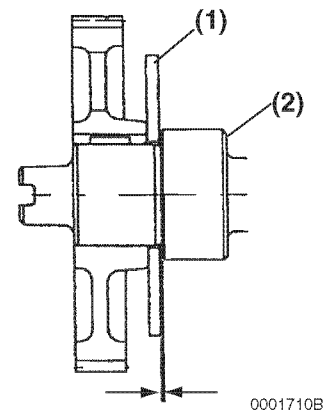

Figure 6-93
- Method B:** Use a feeler gauge to measure the clearance between the thrust plate (Figure 6-93, (1)) and front camshaft bearing (Figure 6-93, (2)). See *Thrust Bearing* on page 6-15 for the service limit.